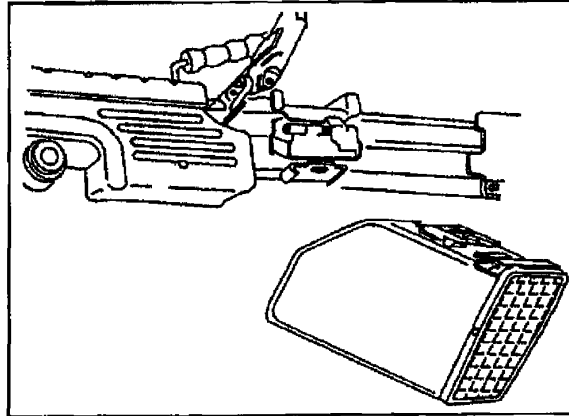

Figure 071-312-4027-3. Attachment of the ammunition box
6. Place the link belt in the feed tray with the first round against the cartridge stop and hold the belt in place. Close the cover assembly (figure 071-312-4027-4).